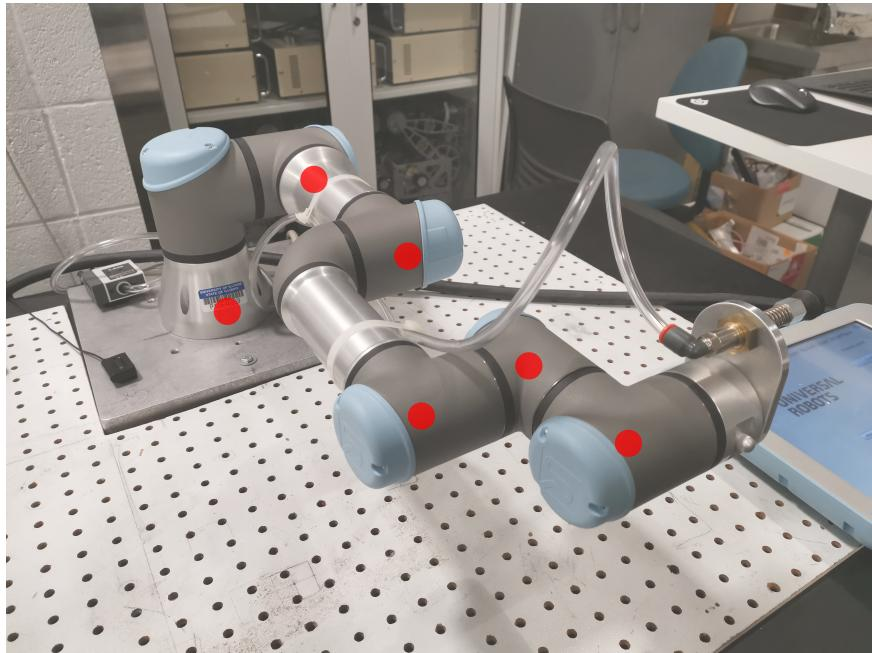

Figure 4.4: Joint center locations on UR3e.
- Figure 4.4 shows the joint centers to aid in locating your  $q$  values.